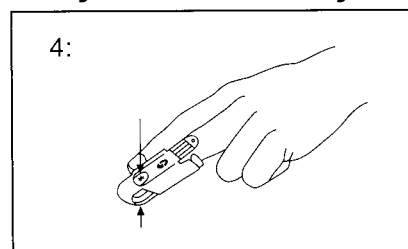

Fig. 34 Correctly attached LNOP® Adt sensor
- 4 When the transmitter and receiver are correctly attached, they should be exactly opposite each other (Fig. 34). Check and if necessary correct the sensor's position. The receiver window must be completely covered by the tissue.